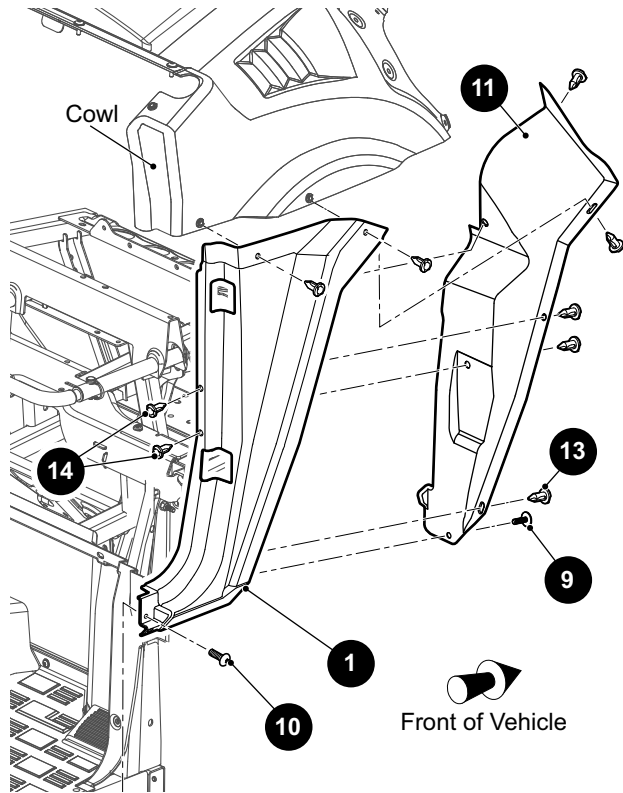

Fig. 8 Quarter Panel and Front Fender Liner
3. Remove the plastic rivets (13) and screw (9) that secure the front fender liner (11) to the quarter panel (1) (See Fig. 8). Remove the front fender liner.
4. Remove the plastic rivets (14) and screws (10) that secure the quarter panel to the frame. Remove the quarter panel.